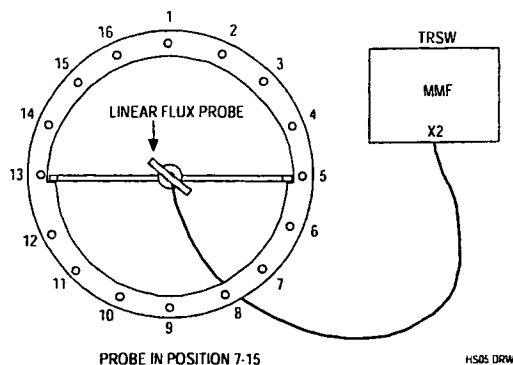

Figure 23 Flux probe position 7 - 15
1. Position the flux probe to position 7 - 15 (see Figure 23).